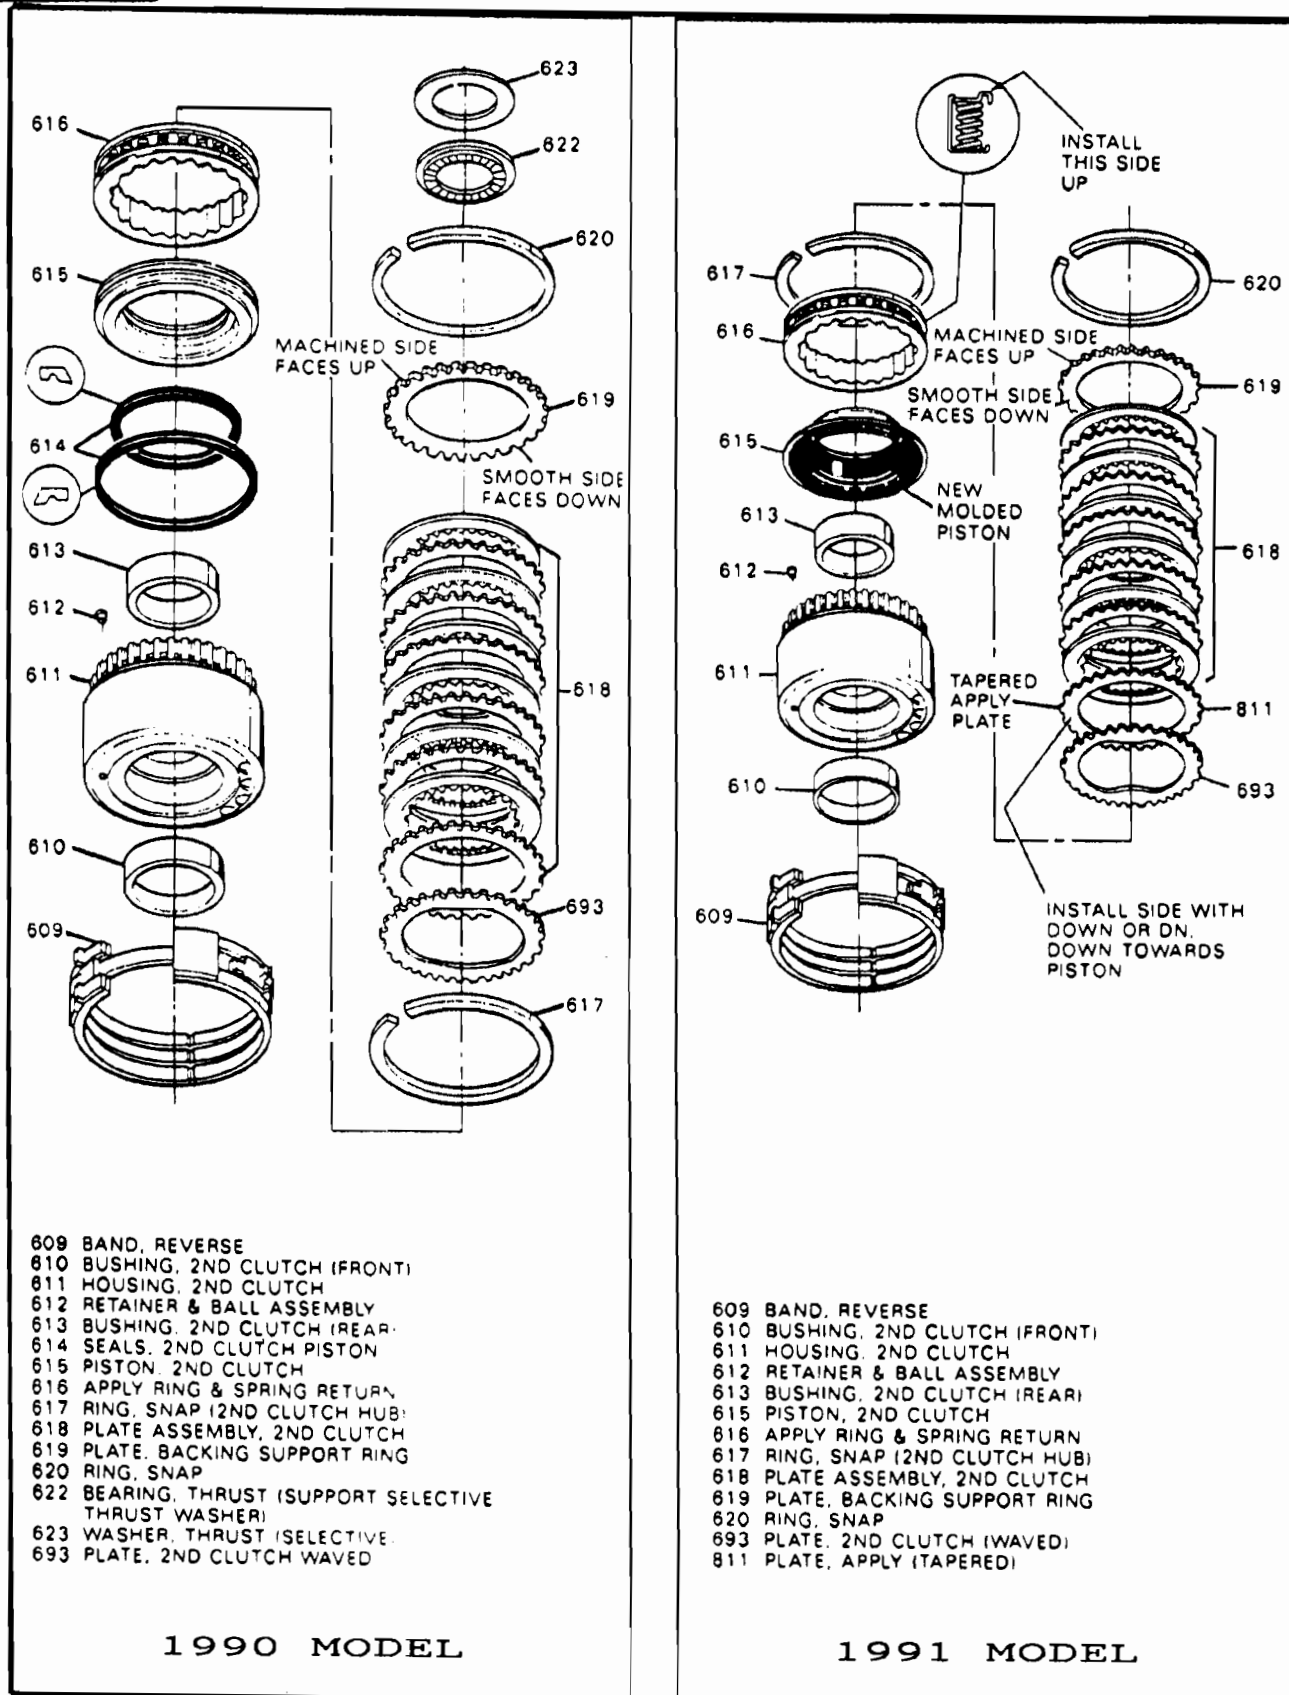

Figure 53
- (1) 2ND CLUTCH HOUSING - Snap ring grooves moved and revised clutch stack up, along with dimensional changes on the center journal area so as to accomodate the new moulded piston and seal assembly (See Figure 53).
- (2) 2ND CLUTCH PISTON - Now has moulded seal assembly on the piston (See Figure 53).
- (3) APPLY RING AND RETURN SPRING ASSEMBLY - Revised dimensions to accomodate the new moulded piston assembly, and the revised clutch stack-up. (See Figure 53).
- (4) REVISED CLUTCH STACK - Includes a new "Apply" plate in the stack-up and one less "Koline" steel plate (See Figures 53 and 55).